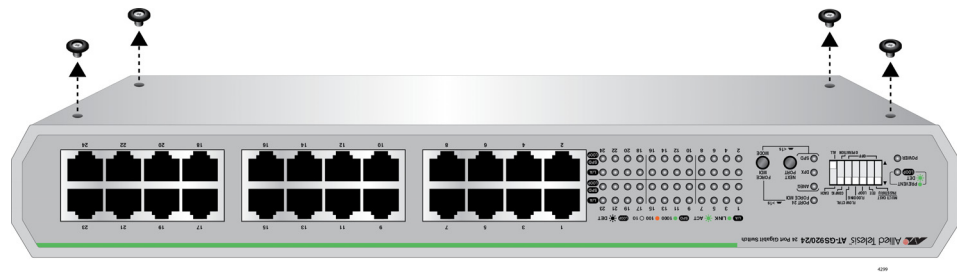

Figure 32. Removing FS710 Series Switch Rubber Feet
2. Turn the switch upside down and remove the rubber feet by unscrewing the attaching screws. See Figure 32.